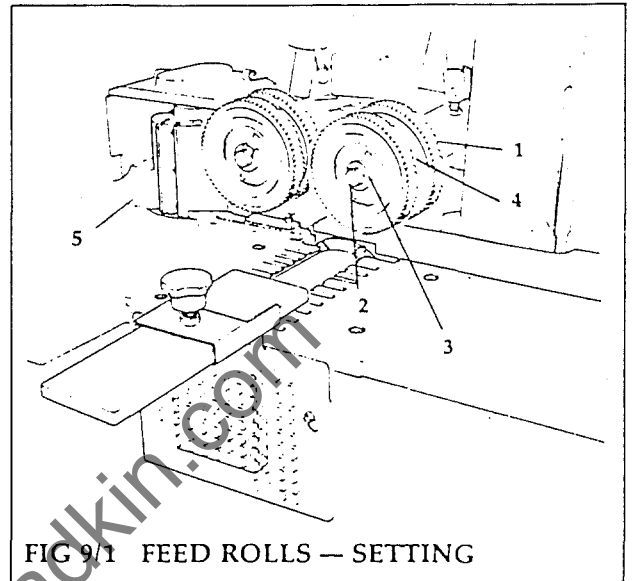
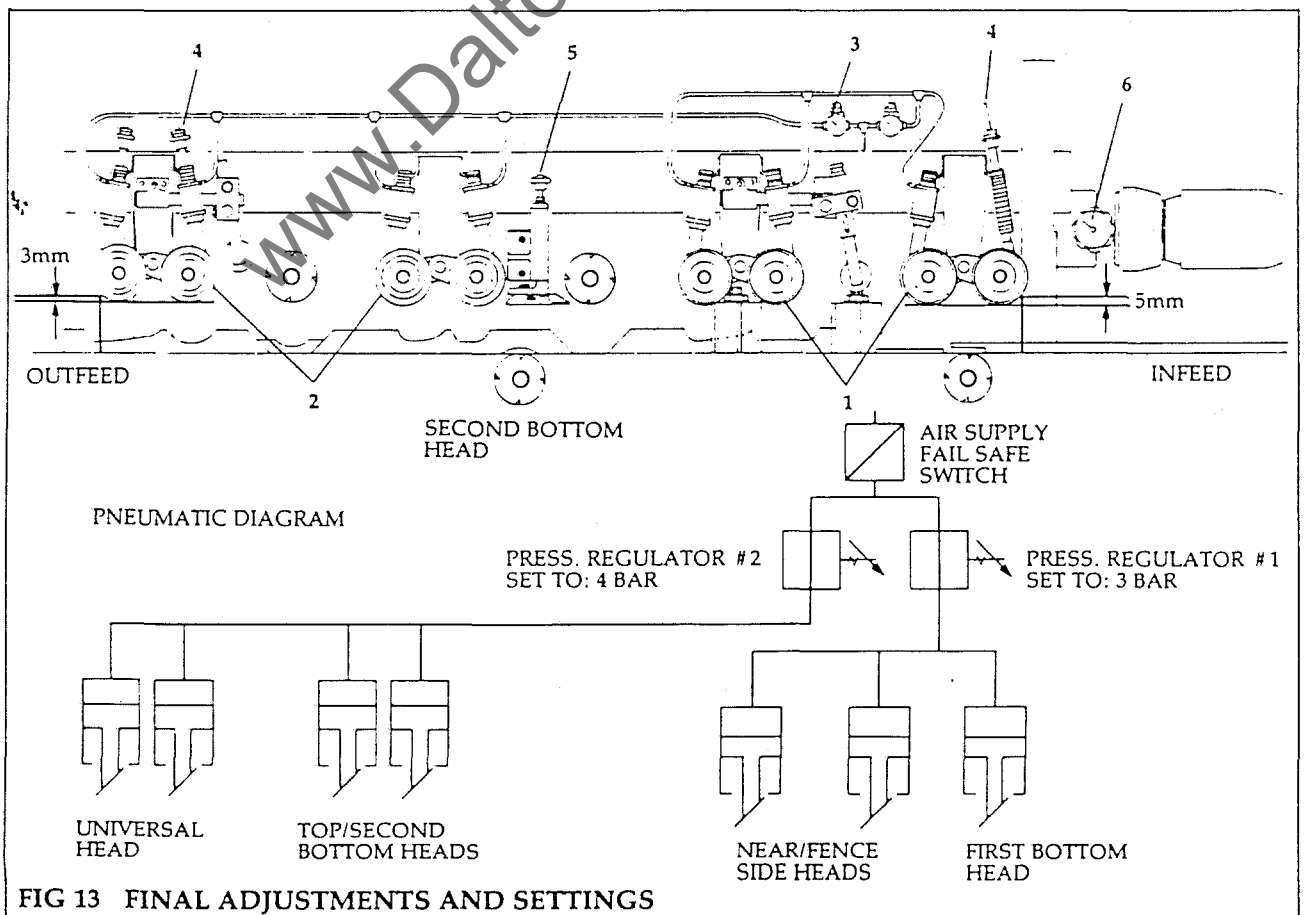

FIG 9/1 FEED ROLLS — SETTING
FIG 13 FINAL ADJUSTMENTS AND SETTINGS
NOTE: To achieve maximum traction on wide timber, it may be advisable to space rolls apart, rather than having a solid bank of feed rolls (see Fig. 9/2).
- a. Slacken centre screw (2), using a 10mm hexagon spanner.
- b. Remove 'C' washer (3), add or remove rolls, or spacers (4), to suit width of stock (Fig 9/2), ensuring that each roll drive pin engages with its mating part.
- c. Refit 'C' washer (3) and retighten centre screw (2).
- (2) Set feed roll height 5mm lower than thinnest workpiece. Set outfeed rolls 3mm (see Fig 13).
- (3) When set up, inch timber through the machine up to the fence side cutter (5) and switch off.
- (1) Inch timber through all spindles and stop with timber over second bottom head. Switch off.
- (2) If necessary, reset pressure pad after top head to new dimensions of timber as follows:
- a. Loosen two screws (1) then slide pad (2) laterally.
- (3) Adjust pad pressure to timber thickness using starwheel (3).
- (4) Restart and feed timber through machine. Set side guide (4) by slackening screws (5), slide guide laterally to hold timber to rear fence without trapping. Retighten screws.
- (5) Set outfeed rolls (6) height to suit timber (Fig 13 refers).
Final Adjustments and Settings (Fig 13)
In this situation the outfeed table is adjusted vertically to the same height as the bedplate after the **Second Bottom Head**, using the handwheel (10). Adjust the feedrolls (20) and roller pressure to suit the thickness of work (see Fig 13).